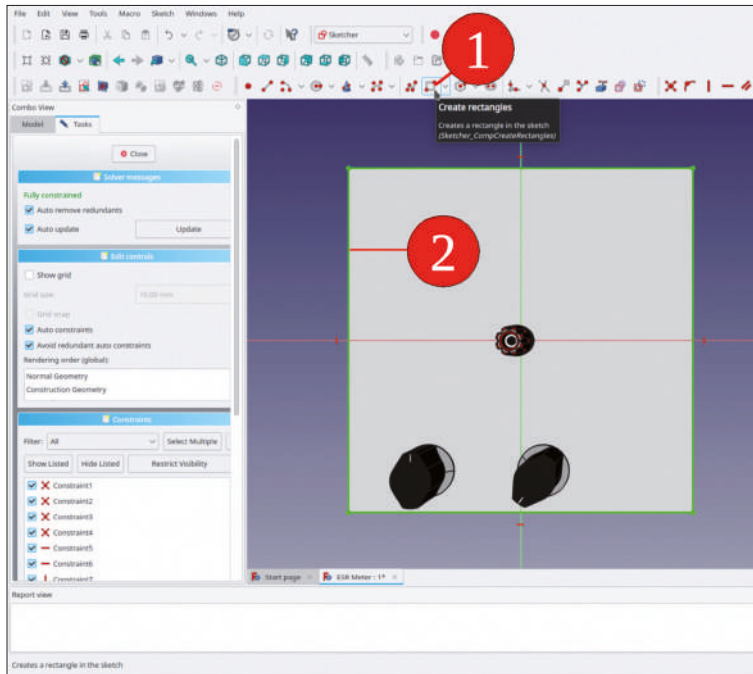

Figure 7-25
8. Click the 'Create a rectangle' tool button and draw a rectangle on top of the violet construction lines (Figure 7-25). Close the sketch with the 'Close' button (top). Rename the sketch to 'Front Panel Top Face Contour'.